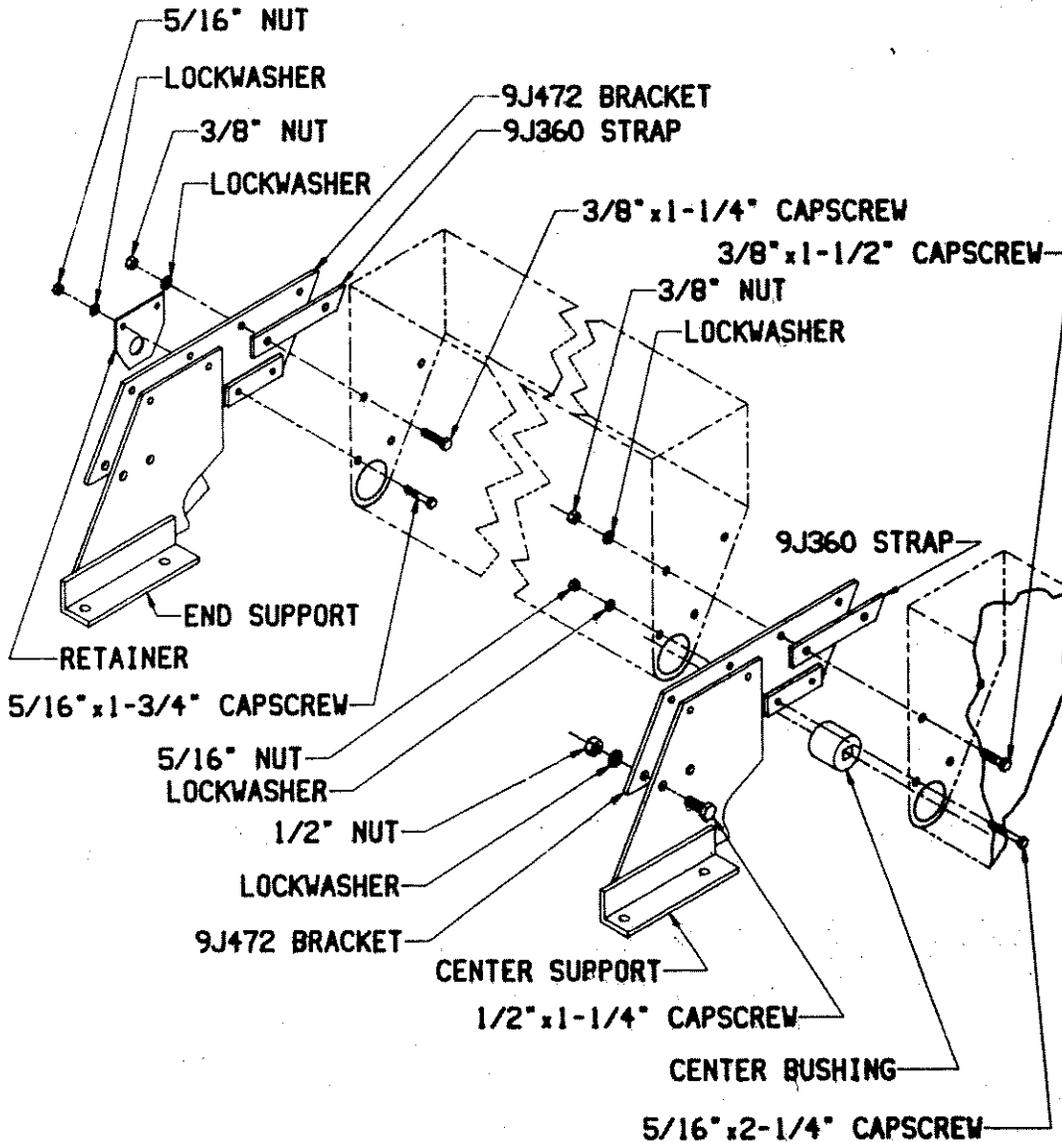

FIGURE 19
4. Install left and right boxes as shown in Figure 19. Left box fastens to transmission with two 3/8" x 1" cap screws, lock washers and nuts. Left box assembly is the one with one hole in the left end of the 5/8" square shaft. This hole is used only for a shipping wire. Right box assembly has two roll pin holes in the right end of the 5/8" square shaft. A roll pin on each side of the retainer positions both shafts.